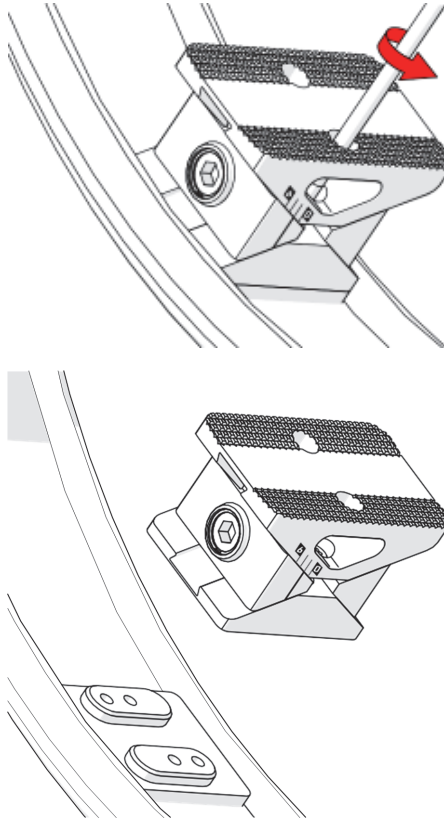

Figure 1-16 Remove the foot
1. Loosen the two hex screws using a 4mm hex driver (see Figure 1-16 on page 37).